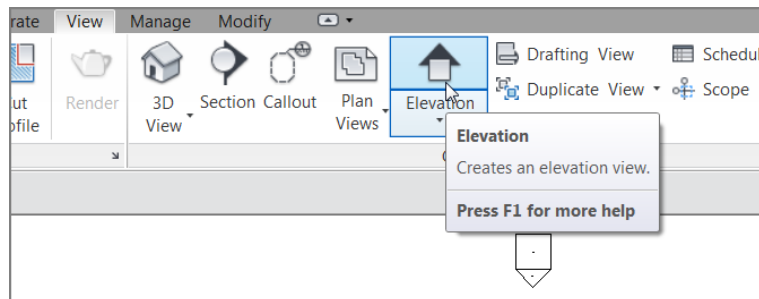

FIGURE 3.77: The Elevation button on the View tab
1. On the View tab, click the Elevation button, as shown in Figure 3.77.